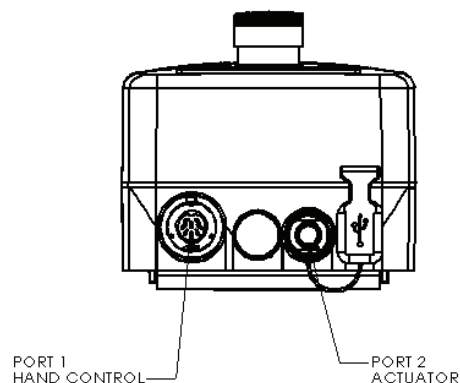

Figure 4. Control Box
8. The LiftOperator Control is pre-assembled on the ML300 (see LiftOperator Owner's Manual for more information). Remove the hand control from accessory carton and unwrap. Insert plug into large socket on the LiftOperator control box as shown in **Figure 4**. Make sure plug is secure.
9. Ensure that the actuator plug is secured in the socket as shown in **Figure 4**.